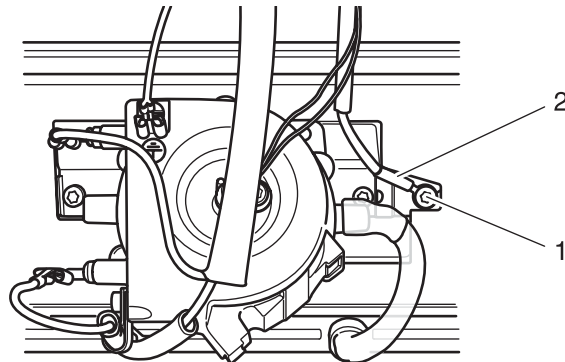

Fig. 8
- Remove screw 1 (fig. 8).
- Bring the heating-shoe sensor in the position shown in fig. 8 and hold it firmly.
- Place the heating-shoe sensor in the position shown in fig. 8 and hold it firmly.